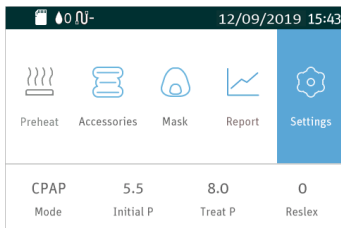
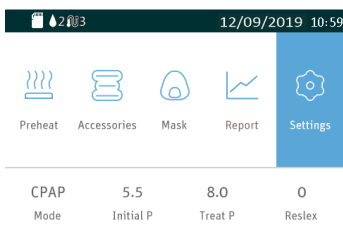
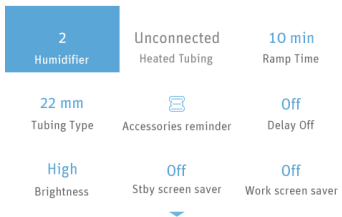

Fig. 15-1
Fig. 15-3
Fig. 15-4
(1) Insert the Cellular Module into the device, and turn on the device. The device screen displays the Main Screen shown in Fig. 15-1.
(1) Insert the WiFi kit into the device, and turn on the device. The device screen displays the Main Screen shown in Fig. 15-1. Turn **the Knob** until the cursor is on the icon , and the screen displays the Initial Setup Interface shown in Fig. 15-3. Press **the Knob**, and the first option on the Initial Setup Interface turns blue, as shown in Fig. 15-4.